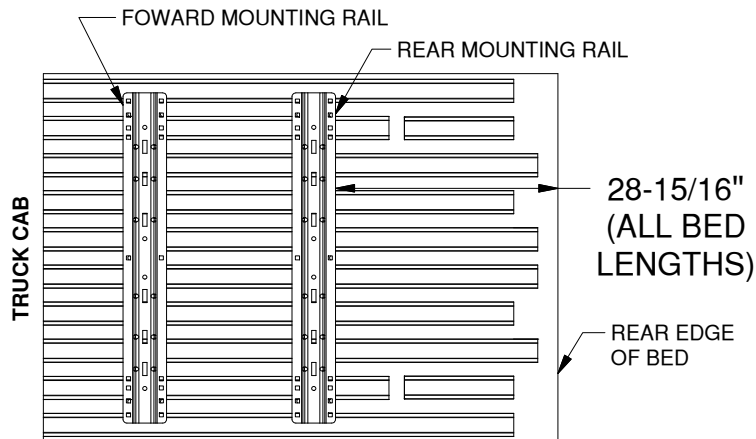

Figure B1: View over bed, showing rail layout.
- 1. Layout the rear mounting rail.** Place a mounting rail onto the bed of the truck. Hook a tape measure over the rear edge of the bed (not on any part of the tailgate), measure the location for the mounting rail as shown in Figure B1. Next, center the mounting rail in the bed by measuring the distance on either side from the edge of the rail to the sides of wheel wells. The rail will be centered when both measurements on either side of the rail are the same.